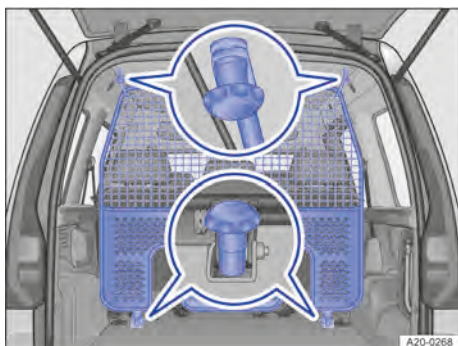

Fig. 134 In the load compartment: partition grille behind the second row of seats.
3. Screw the partition grille tight at the rear mounting points in the roof → Fig. 134.
4. Screw the partition grille tight at the lower anchor points → Fig. 134.
3. Screw the partition grille tight at the front mounting points in the roof → Fig. 134.
1. Unscrew the partition grille at the lower anchor points → Fig. 134.
2. Unscrew the partition grille at the mountings in the roof → Fig. 134.